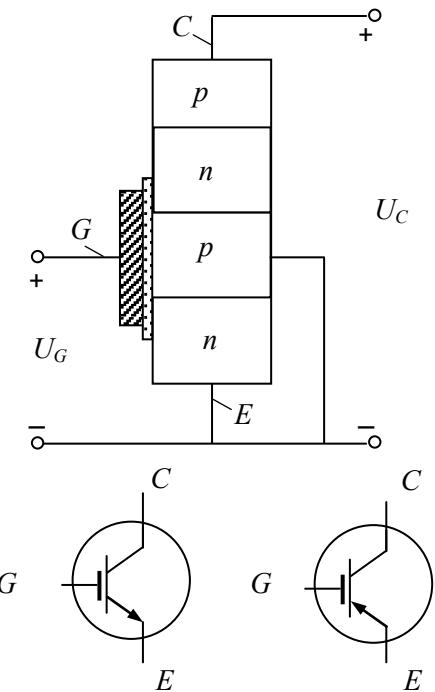

Fig. 1.44
**Structure.** Fig. 1.44 displays the structure of IGBT that is quite similar to that of enhanced-mode MOSFET. The principal difference is the presence of *p* layer that forms the collector of the IGBT. This layer arranges the *pn* junction, which injects minority carriers. The circuit symbols of *n*-channel and *p*-channel IGBTs are also presented. Their leads are the collector, the emitter, and the gate.